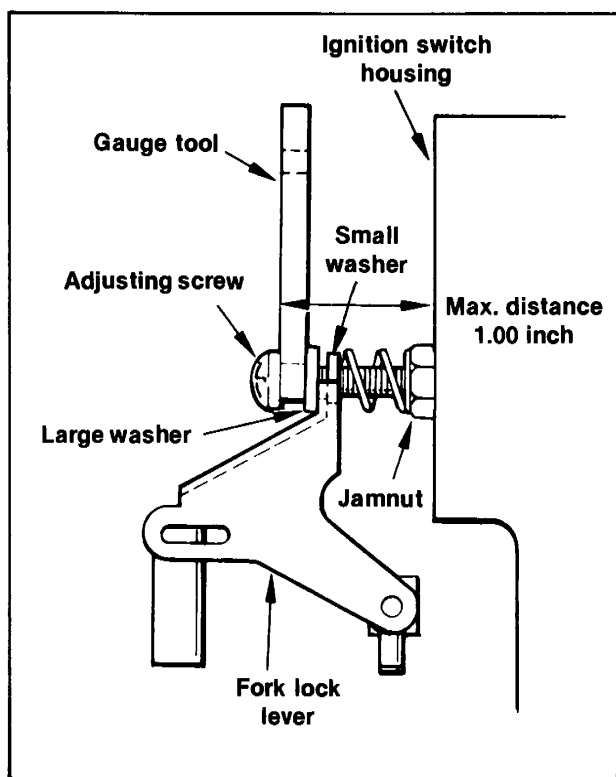

Figure 2-118. Fork Lock Adjustment
4. See Figure 2-118. Install onto adjusting screw the following parts in order given: large washer, small washer, spring and jamnut. Turn adjusting screw into switch plunger a few turns making sure fork lock lever slot is between large and small washers.
9. See Figure 2-118. Tighten screw until adjusting screw, large washer and gauge tool touch lever.